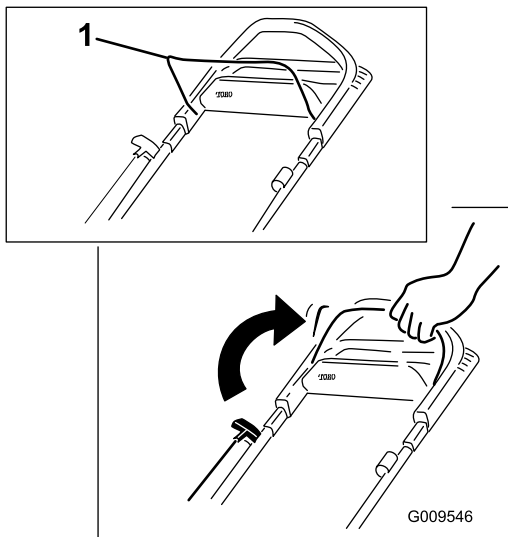

Figure 16
1. Pull the blade-control bar to the handle and hold it (Figure 16).